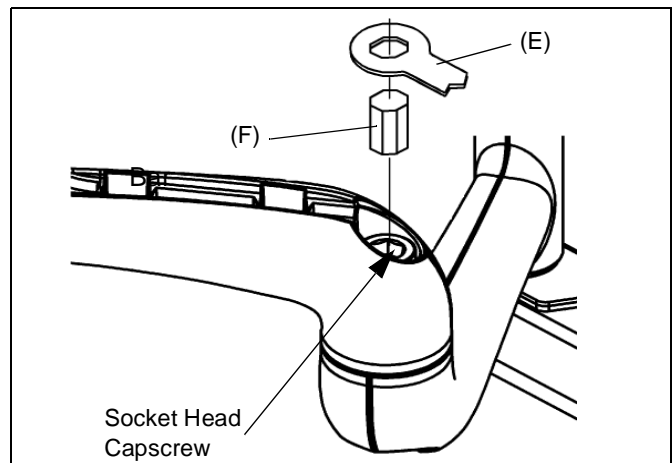

Figure 14
2. Remove four bolts (two on the top and two on the bottom) securing the swing arm assembly to the top and bottom mounting brackets (See figure 14).
1. Locate the adjustment insert (F) and wrench (E) provided with the mount.
2. Place adjustment insert into socket head cap screw located at swing arm pivot point. (See Figure 14)